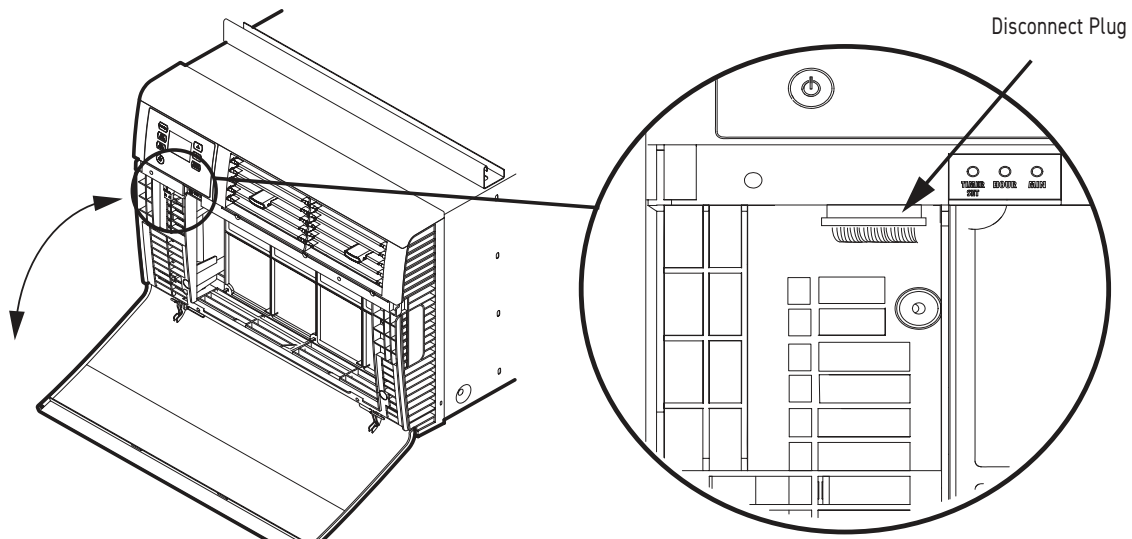

Figure C.6.1
- A. Open the decorative front cover. (See figure C.6.1)
- B. Locate and disconnect electronic control power cable harness. (See figure C.6.1)